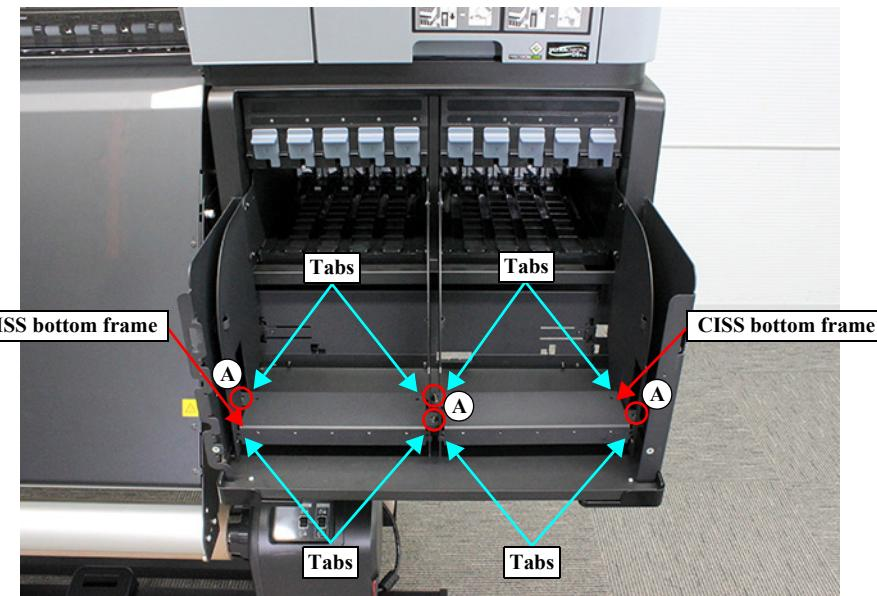

Figure 3-23. Removing the CISS bottom frame
- Attach four tabs of the CISS bottom frame to the holes of frame. (Figure 3-23)